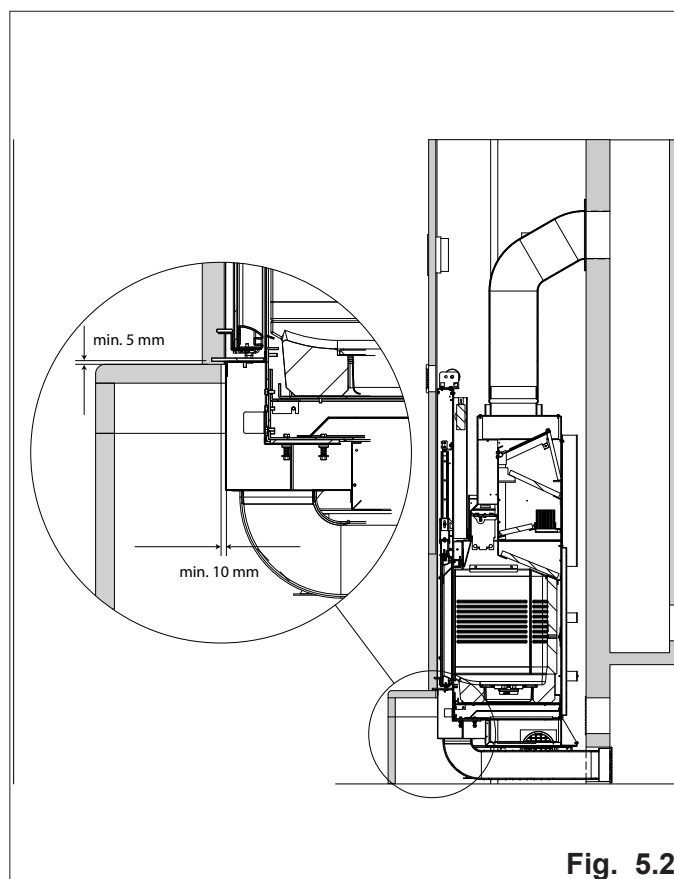
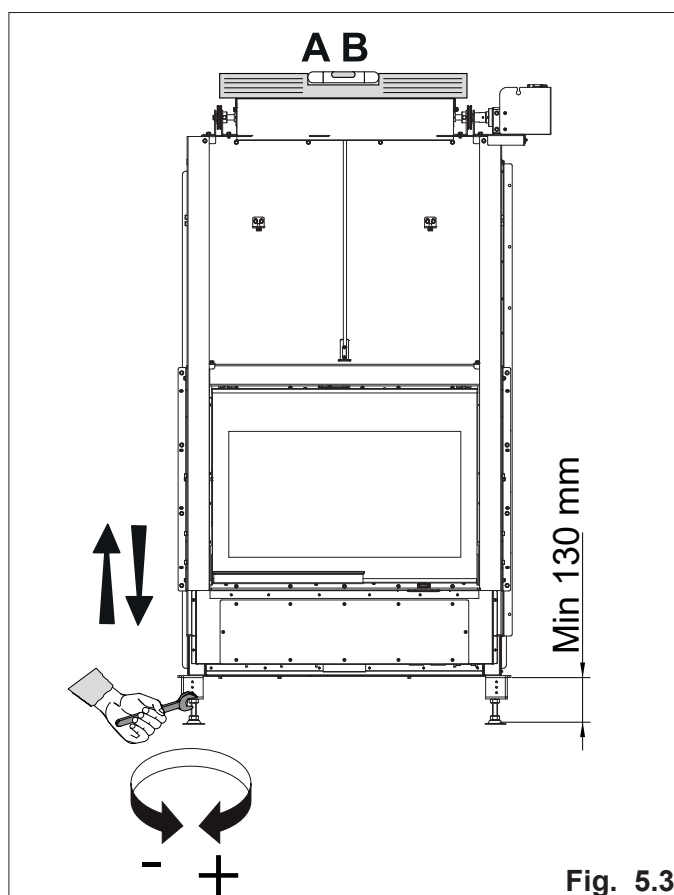

Fig. 5.2
Fig. 5.3
It is necessary to align the front part of the appliance with the internal edge of the marble top, leaving a gap of 10 mm to allow free expansion of the appliance (Fig. 5.2).
To adjust the final height of the fireplace (height of the fire floor of the covering) simply adjust the adjustment screws on the legs. Adjust the four feet to bring the appliance to a distance in height from the marble cover profile of 5 mm and a safety distance in depth from the marble top of 10 mm (Fig. 5.2) ensuring that the base of the fire box is level (AB) (Fig. 5.3).